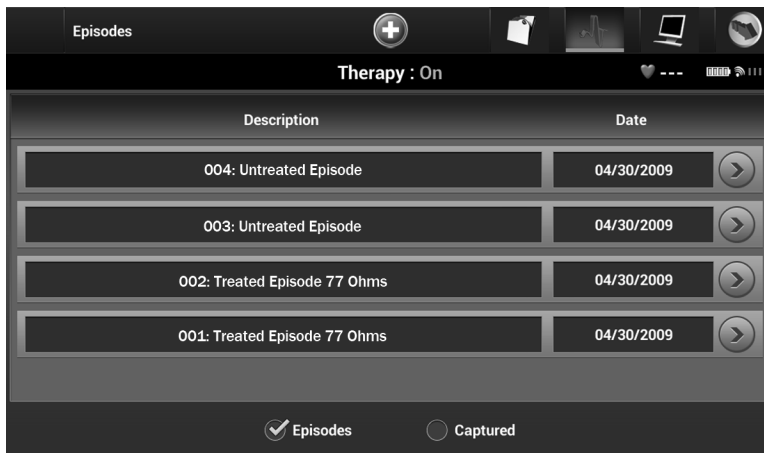

Figure 35: Stored Episodes screen (scrollable list)
5. Select an episode (treated or untreated) from the list (Figure 35). The selected episode will be downloaded from the SQ-RX device and displayed.
Note: *In order to be available for printing, episodes must be individually downloaded from the Stored Episodes Screen (Figure 35).*